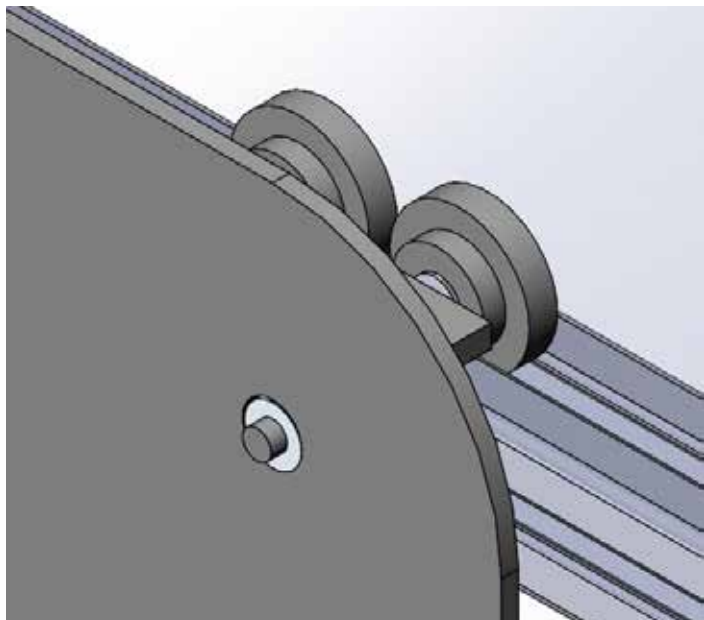

Figure 7
16. Fit a large board onto all four exposed barrels and replace the caps to secure the board to the rails. **Figure 7**. The board will be able to slide back and forth across the whole system.